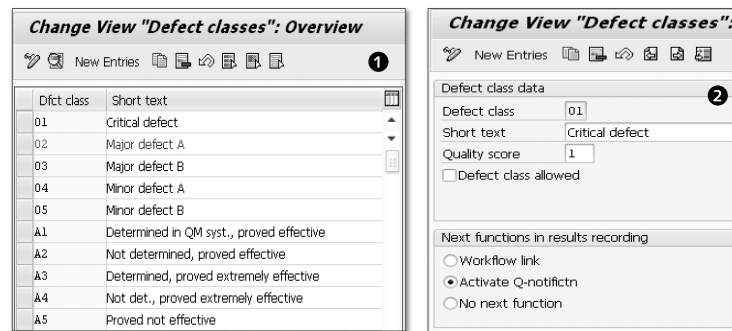

Figure 3.55 Defect Classes
CLASSES. Figure 3.55 ❶ shows an overview of various defect classes. Choose DFCT CLASS 01 in ❶ so that the detailed view of the defect appears as in ❷. The system displays the QUALITY SCORE in ❷. The critical or more severe a defect, the lower the quality score. Together with the quality score in a defect class, the system uses characteristic weighting to come up with an overall quality score of an inspection lot, which forms the basis of vendor evaluation.